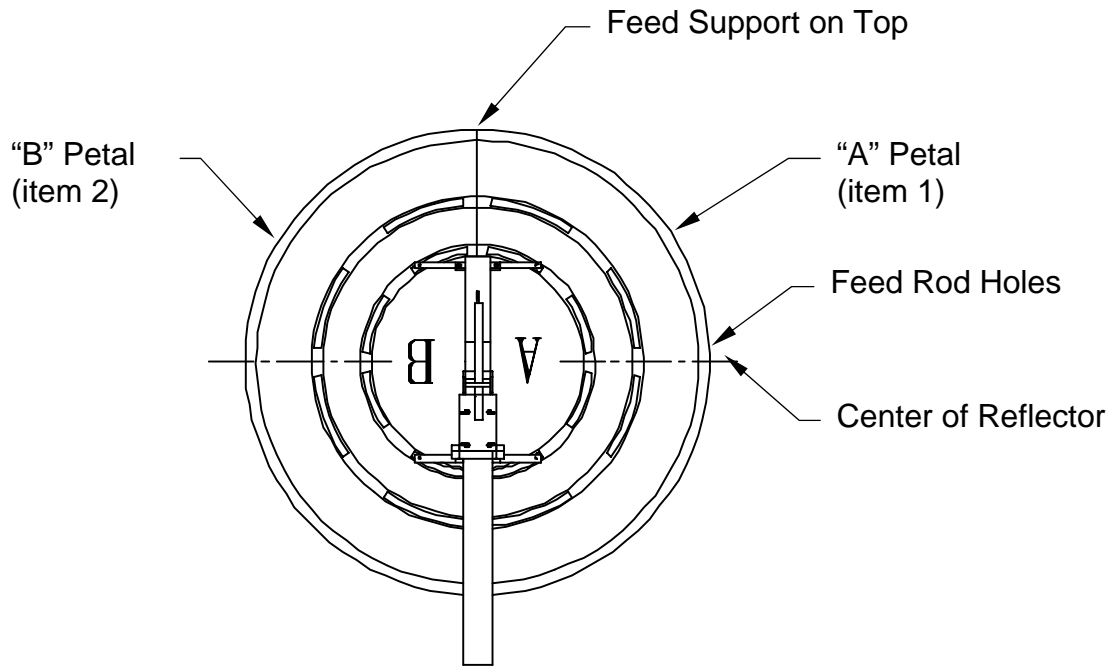

Figure 2
However, to achieve a lower profile installation or in areas of high snow accumulation, the reflector can be assembled inverted (feed support on top) with the “B” petal on the left side and the “A” petal on the right side – See Fig. 2. Please note that in either situation, the angled cross arm (item 8) must be oriented for the correct position – See Fig. 3.